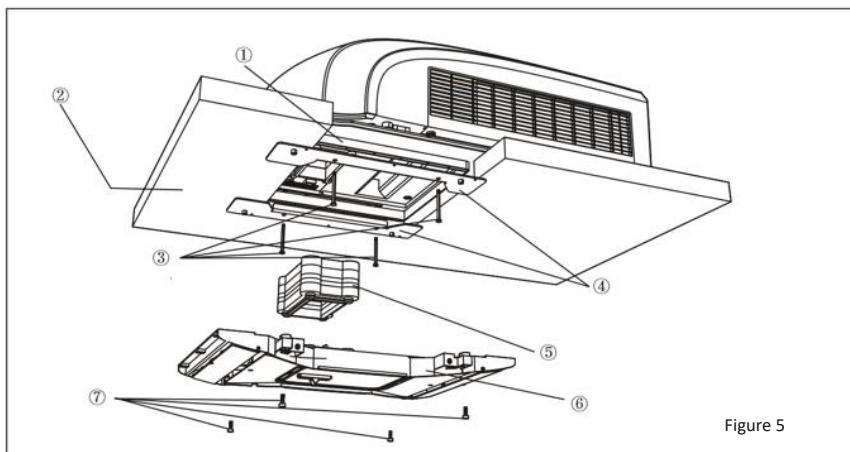

Figure 5
3. The mounting brackets should overlap with the surface of the vehicle ceiling. Tighten the bolts in a cross pattern and make sure the screw holes align with the holes in the adapter. Maximum torque on the bolts (4) is 1,8Nm. (See figure 5)